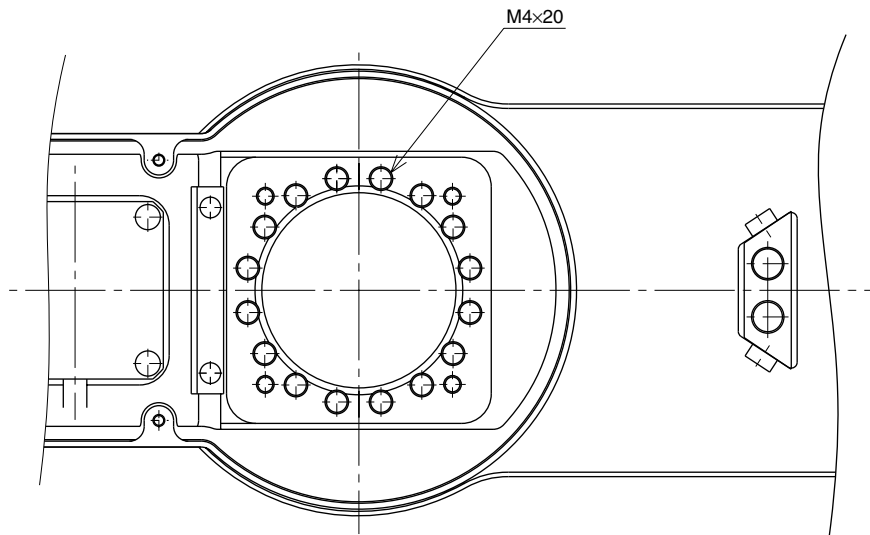

Fig. 5-42
- 9) Remove the Y-axis arm installation bolts (M4×20L, 16 pieces). (See Fig. 5-42.)
- 16) Secure the Y-axis arm to the harmonic drive with the bolts (M4×20L, 16 pieces) you removed earlier. Apply small amounts of “Screw Lock” to the bolts and tighten them uniformly to secure the Y-axis arm. (See Fig. 5-42.)